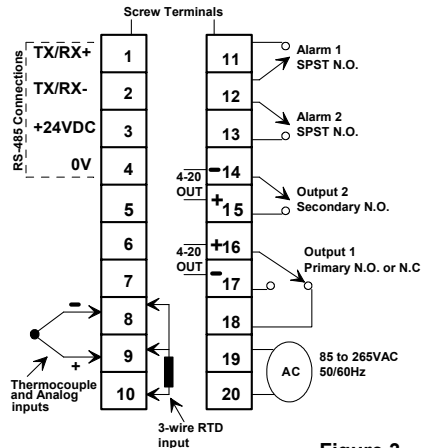

Figure 3
**Control Output Relays:** Terminals 14,15 and 16,17 (NO); Terminals 16,18 (NC).
**24VDC Pulse Output option:** Use the same terminals and polarity as 4-20mA outputs (shown in Figure 3).